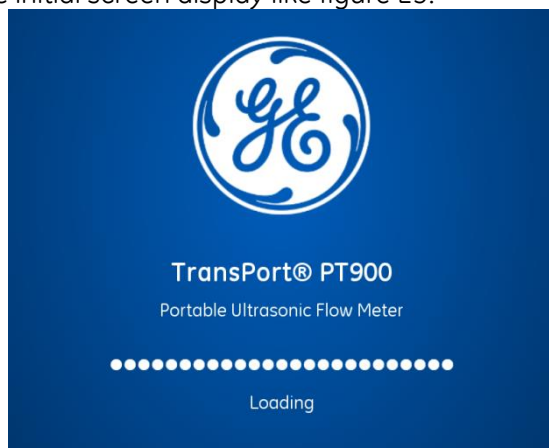

Figure 23: PT900 APP loading screen
Refer to *Figure 23* for cable gland usage definition. If no cables feed through the cable clamp holes, it must be blocked with the gland-insert provided together with meter.
3. Feed one end of the cable through the gland hole, wire it to terminal block and secure the cable gland as shown in *Figure 23*.
After the PT900 APP is activated, the initial screen display like figure 23.